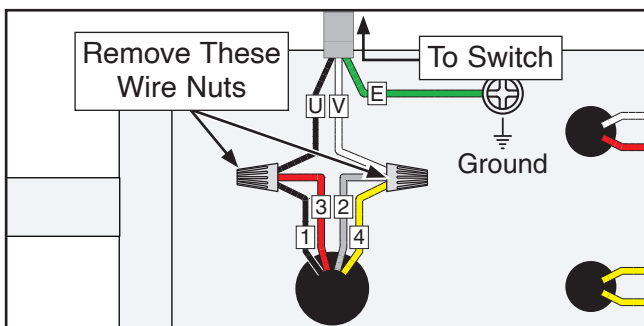

Figure 13. Inside motor junction box.
3. Open motor junction box, then remove two wire nuts indicated in **Figure 13**.